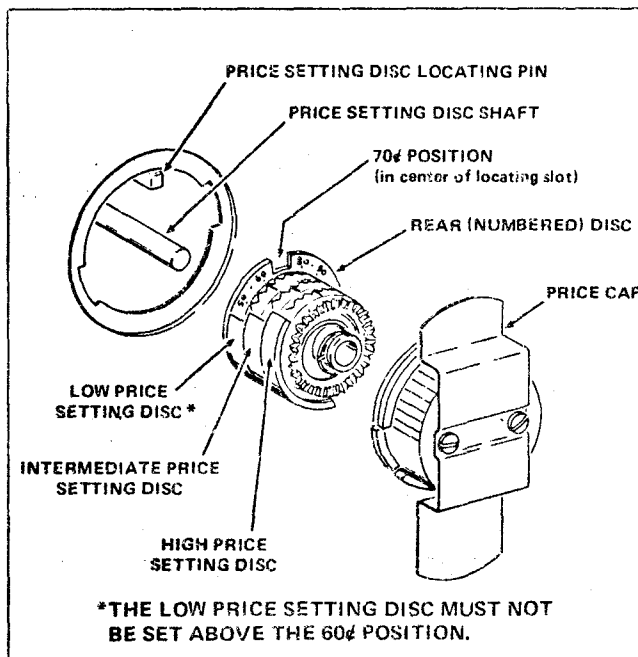

Figure 1. The Series 130 ACMR Price Disc Assembly Removal
- 4. Remove the Price Cap from the Coin Mechanism. See Figure 1.
- 5. Remove the Price Disc Assembly from the Coin Mechanism. See Figure 1.
6. Rotate the 3 toothed Price Setting Discs to align the yellow line in each of the 3 Discs with the desired vending price marking on the Rear (numbered) Disc. The Discs are totaled by pulling them against the Spring, away from the Rear Disc. See Figure 1.
2. Rotate the Low Price Setting Disc, the Disc next to the Rear (numbered) Disc, to align the yellow line on the Disc with the 60¢ price indication on the Rear Disc. See Figure 1.
3. Rotate the Intermediate Price Setting (center) Disc and the High Price Setting (outer) Disc to align the yellow line on these Discs with the price at which the Merchandiser is to vend. See Figure 1.